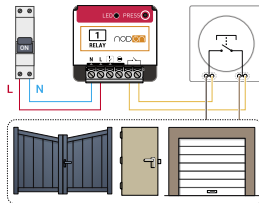

Figure 1
- Wire the Multifunction Relay Switch, in parallel to the push-button following the diagram figure 1.